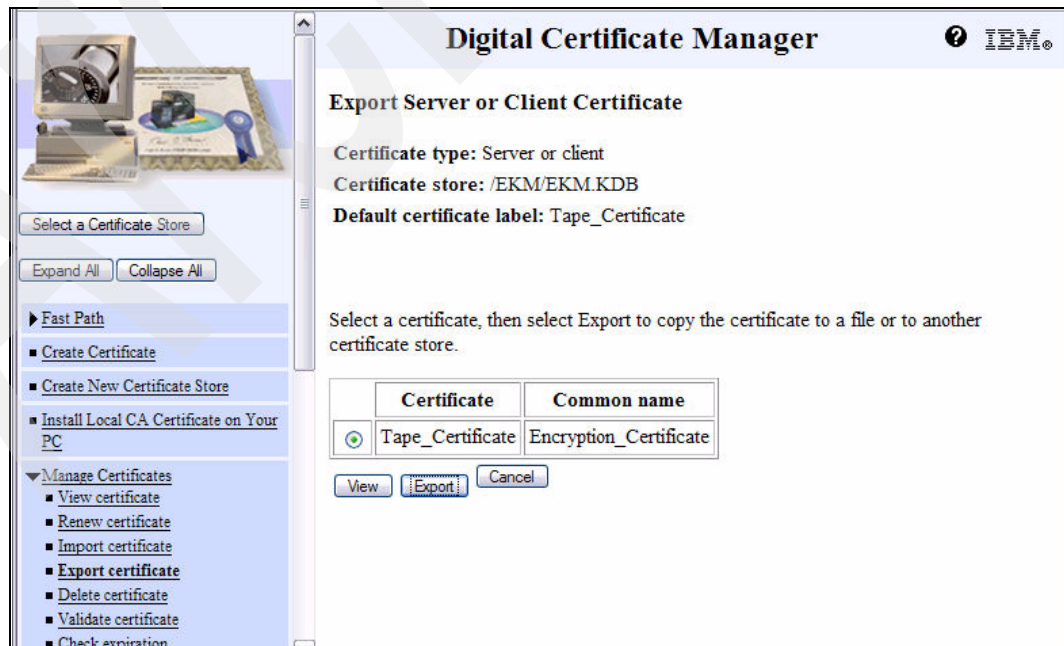

Figure 7-42 DCM Export Server or Client Certificate
9. After clicking **Continue**, select the certificate used for 3592 tape encryption for which the public key should finally be exported for providing it to the business partner as shown in Figure 7-42.